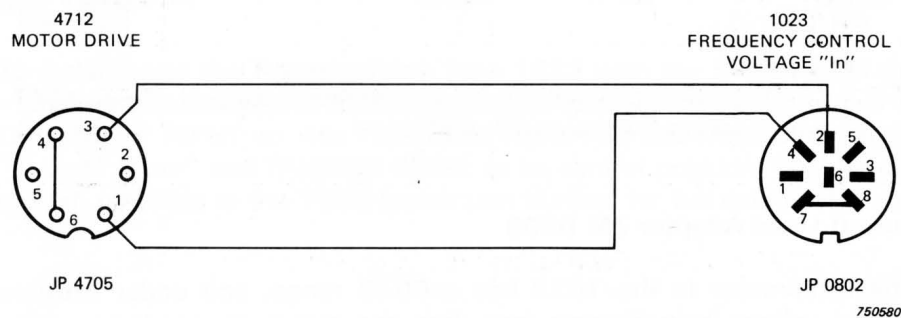

Fig.3.13. Connections between the 4712 MOTOR DRIVE and 1023 FREQUENCY CONTROL VOLTAGE "In" sockets (external view).
1. Make the connections indicated in Fig.3.13. between the FREQUENCY CONTROL VOLTAGE "In" socket of the 1023 and the MOTOR DRIVE socket of the 4712.